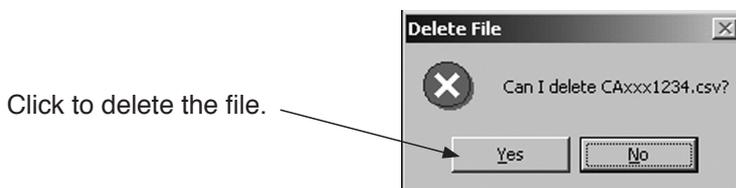

Fig.163
- ④ After the click, the selected file will open, and a message box (Fig. 163) will be displayed. To delete, click the "Yes (Y)" button. To not delete, click the "No (N)" button. After the "Yes (Y)" button is clicked, the file will be deleted.